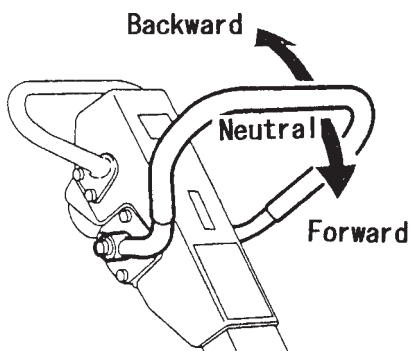

**Figure 12. Throttle Lever (Fast)**
1. Grasp the compactor's hand grip and move the throttle lever (Figure 12) quickly to the **fast** position. The compactor will not operate correctly until the engine speed is high enough to engage the centrifugal clutch (approximately 2300 RPMs).